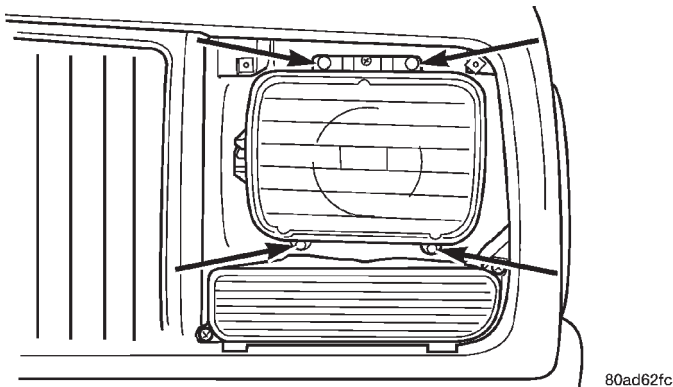

Fig. 2 Headlight Housing
2. Remove the 4 screws holding the headlight and replace the bulb from the front of the housing (Fig. 2).
2. Remove the 4 screws holding the headlight housing (Fig. 2).